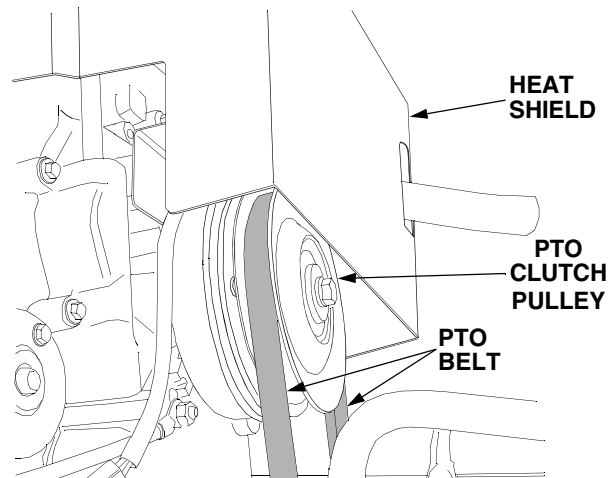

Figure 38
4. From beneath the front of the tractor, lift the two sides of the belt up and maneuver the PTO belt over and off the front of the PTO clutch pulley on the front of the engine. Lower the belt down between the front of the PTO pulley and the engine heat shield (Refer to Figure 38).